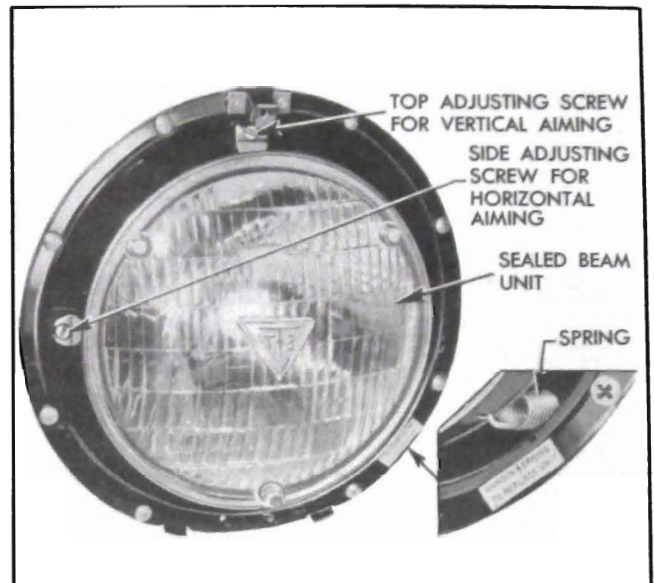

Figure 10-62—Sealed Beam Unit Mounting
2. Unhook the spring from retainer ring (fig. 10-62), then remove sealed beam unit and retainer ring, being careful not to disturb the two beam adjusting screws.
2. Adjust light beam up or down as required by turning the top beam adjusting screw. See figure 10-62.